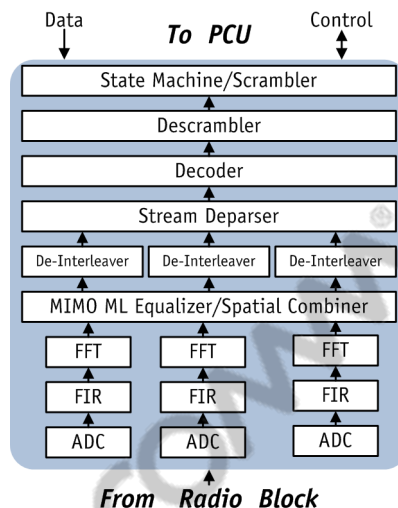

Figure 8-2 Digital PHY 802.11n Rx
Figure 8-2 shows the Rx path digital PHY 802.11n (MIMO mode) block diagram.
The receiver inverts the transmitter's steps, performing a fast Fourier transform (FFT), extracting bits from received constellations, de-interleaving, accounting for puncturing, decoding, and descrambling. The Rx block shows 3x3 MIMO configuration. Figure 8-2 shows a frequency-domain Maximum Likelihood (ML) equalizer handling degradation due to multi-path.